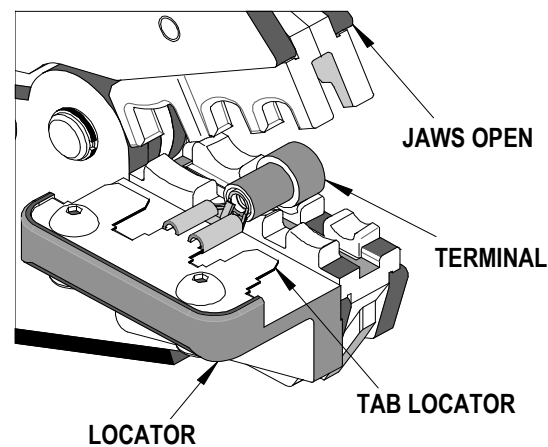

Figure 1
2. Push the terminal onto the Tab Locator all the way to the stop in the proper color-coded nest. The Barrel of the terminal should be up. See Figure 1.